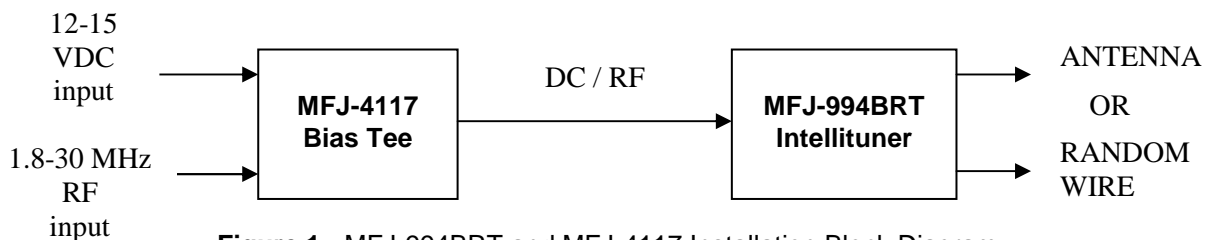

Figure 1: MFJ-994BRT and MFJ-4117 Installation Block Diagram
1. Connect the transmitter to the “**RF IN/OUT**” coaxial connector on the **MFJ-4117 Bias-Tee** using a 50-ohm coaxial cable. (See Figure 1) This is the RF signal input connector.
2. Install the MFJ-4117 Bias-Tee between the transmitter and the antenna. Use a 50-ohm coaxial cable (such as RG-58) to connect the transmitter. See Figure 1.
3. Connect the transmitter to the “**RF IN/OUT**” coaxial connector on the **MFJ-4117 Bias-Tee** using a 50-ohm coaxial cable. (See Figure 1) This is the RF signal input connector.